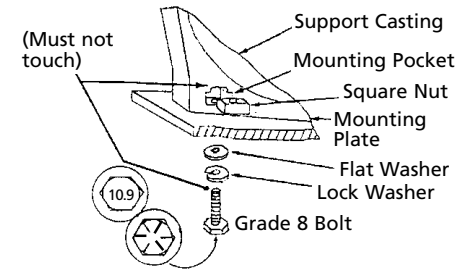

Figure 8
- Use only square nuts in casting for mounting. (See Figure 8.)
⚠ CAUTION The end of the mounting bolts must not contact the opposite side of the support casting's mounting pocket (see Figure 8).
⚠ WARNING Do not substitute any strength grade weaker than SAE Grade 8 (ISO 10.9). Grade marking is found on the bolt head and is pictured in Figure 8.